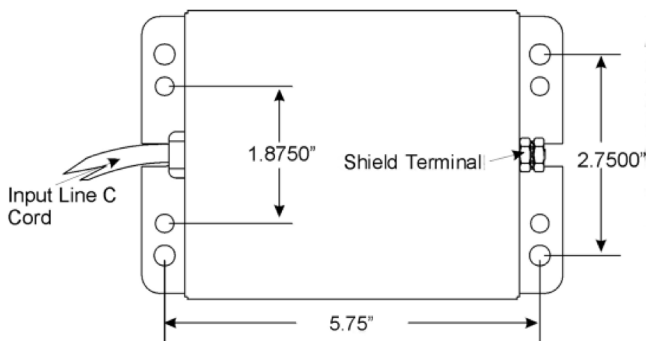

Figure 2
3. Drill four 9/32" diameter clearance holes for mounting the power supply using ¼-20 hardware. Refer to Figure 2 for dimensions between clearance holes.